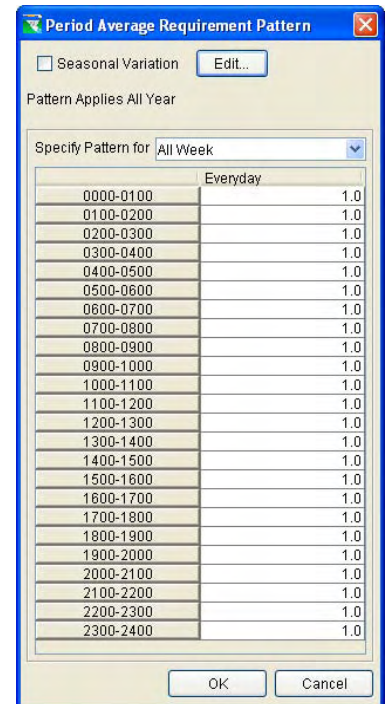

Figure 11.78 Period Average Requirement Pattern Editor (All Week Pattern)
- Click the **Daily Release Pattern** button to open the **Period Average Requirement Pattern** editor (Figure 11.78).
1. The **All Week** option (as previously shown in Figure 11.78) simply applies the same release requirement pattern for every day of the week. You can specify a multiplier for each hour of the day. Refer to Section 11.6.3 for more details on **Hour of Day** multipliers.